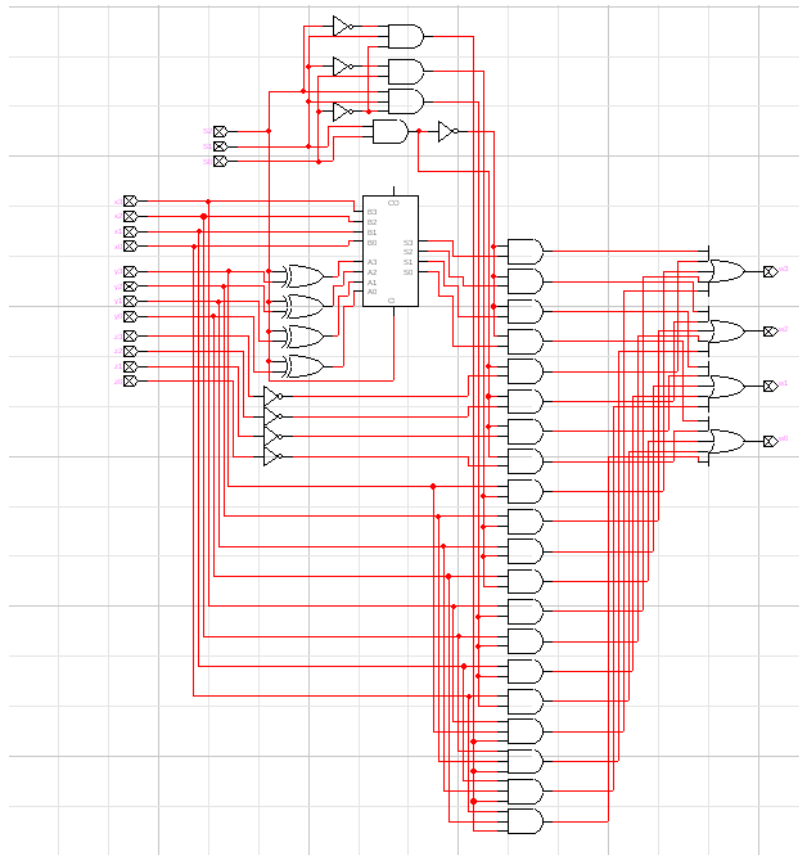

Figure 2: Internal circuit of the ALU
2. Figure 2 shows the internal circuitry of the ALU. Notice that I have made a design decision alternate to that made in lecture five by bundling the negation of  $z$  into the ALU. I understand that in a real situation, the Control Unit would have to coordinate the operations of more than one operational unit e.g. an FPU. For this reason, I will use an external not to create  $z'$ , to give the Control Unit something else to control.